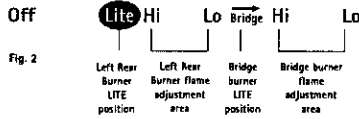

Fig. 2
5. With both burners lit, continue to turn the knob counterclockwise to adjust the flame size for both the left rear and left center burners together (Bridge Burner flame adjustment area - See Fig. 2)